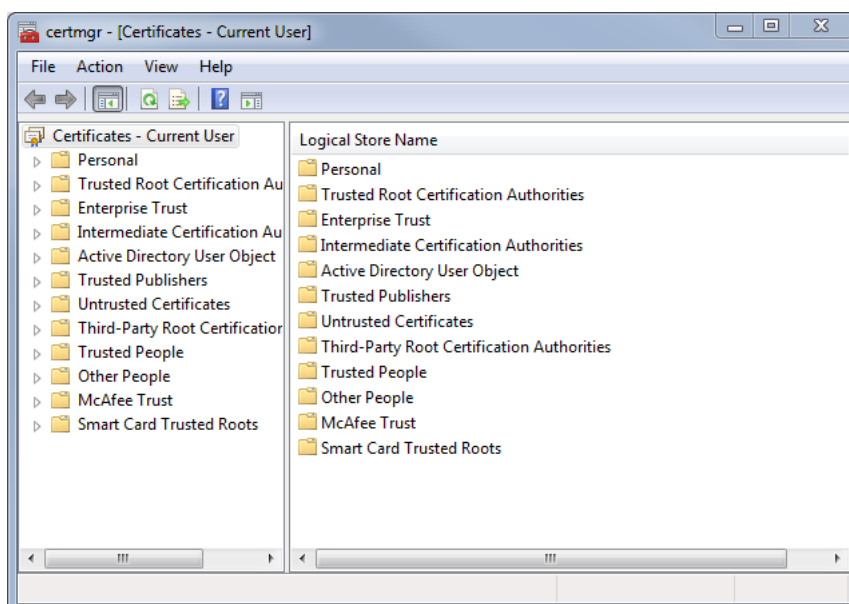

Fig. 2-9: *certmgr* Application
3. The 'certmgr' application is started (Figure 2-9).